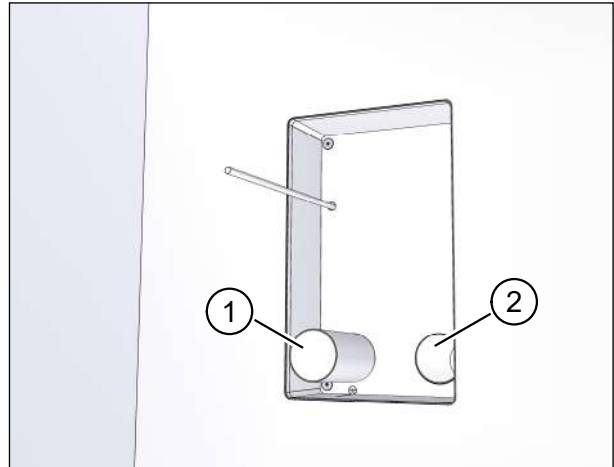

Fig. 40: Cutting ventilation pipes to length
- ▶ Push the two ventilation pipes (item 1 in Fig. 40) into the openings in the installation kit until they end flush with the inside of the installation kit (item 2 in Fig. 40).